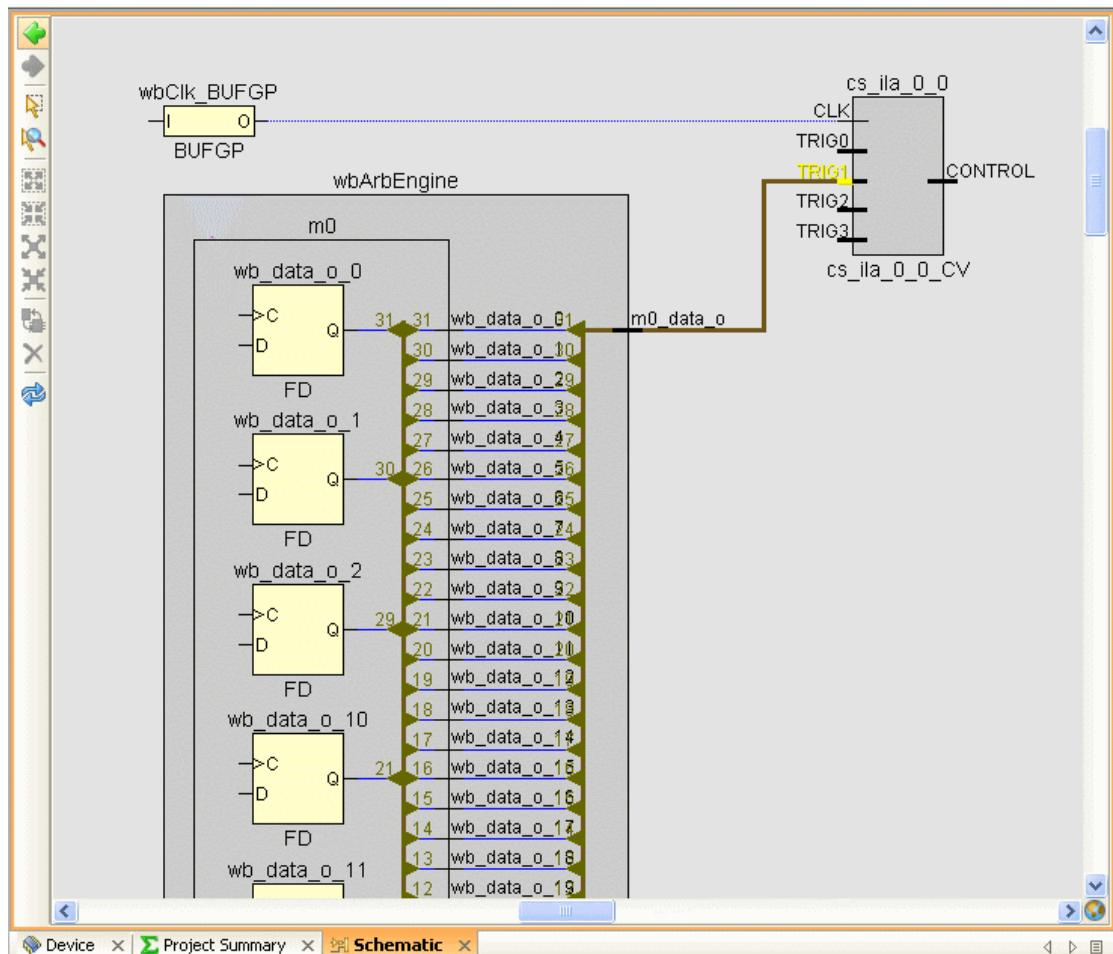

Figure 20: PlanAhead Expanded Schematic of TRIG1 Net
- 5-1-12. Zoom in to view the expanded cs_ila_0_0 schematic (Figure 20). To Zoom in, click on the schematic diagram in the upper-left corner and drag the mouse to the lower right.